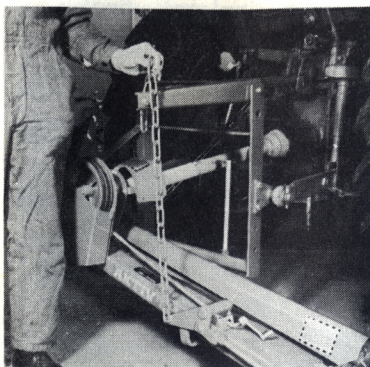

Fig. 15
- Attach the lifting chain to the gag lever. Extend the chain to the bolt hole and then release two links, see Fig. 15.